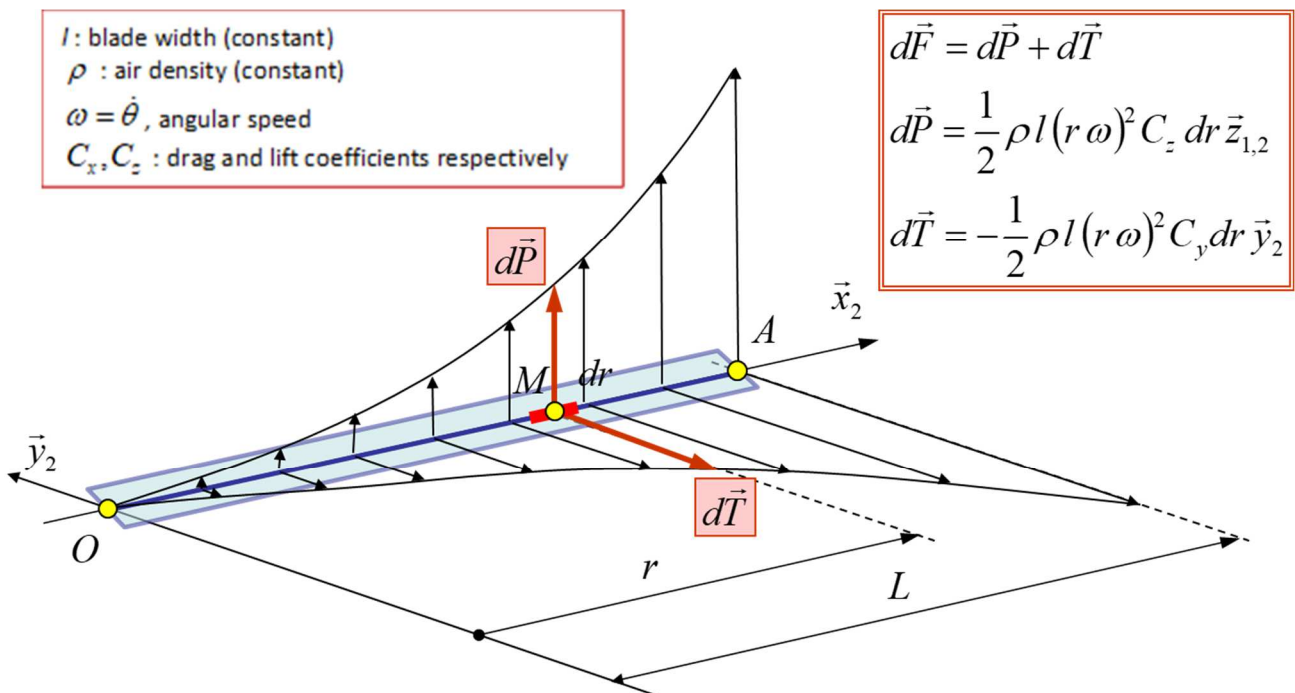

Figure 2: Aerodynamic forces on the blade
**Aerodynamic forces on the blade:** Figure 2 shows the distributions of the aerodynamic forces along a blade of length  $L$ . At every elemental segment of length  $dr$  centred at  $M$ , the corresponding elemental aerodynamic forces are expressed as: